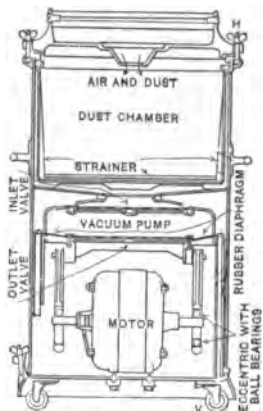

FIG. 82. — Vacuum cleaner.
**89. Applications of the vacuum pump.** Vacuum cleaning (Fig. 82) is an application of the force of suction, created by a vacuum, to the cleansing of buildings and their furnishings. Some vacuum cleaners are portable and some are stationary, some are operated by hand and some by an electric motor, some tend to produce a vacuum by a pump and some by a rotating fan, but the general principle is the same in all.